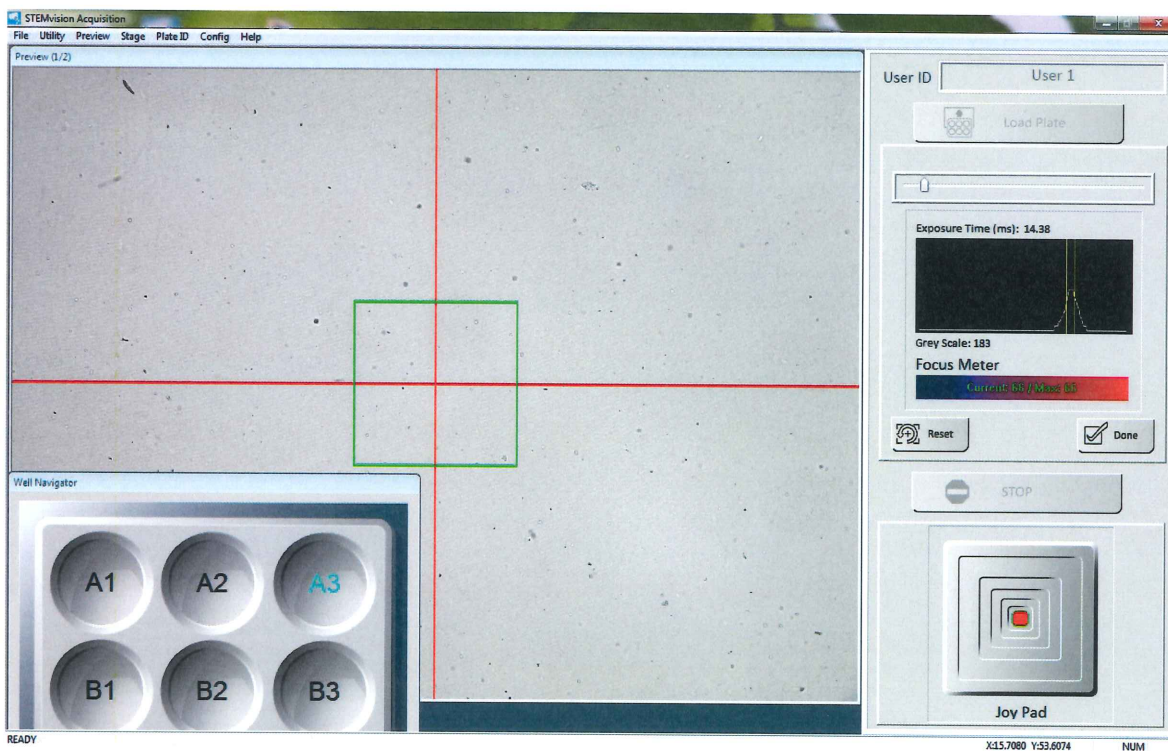

Figure 7: Setting the Illumination in the “Set Focus and Illumination” Dialog Box of the STEMvision™ Acquisition Application.
- i. Use the Joy Pad to find a location in the well that does not contain any colonies (i.e. only medium should be seen in the Preview Window) as shown in Figure 7. If an area with no colonies cannot be found, use the Joy Pad to find a location in the well that does not contain any large colonies or dark shadow areas (i.e. primarily medium should be seen in the Preview Window).